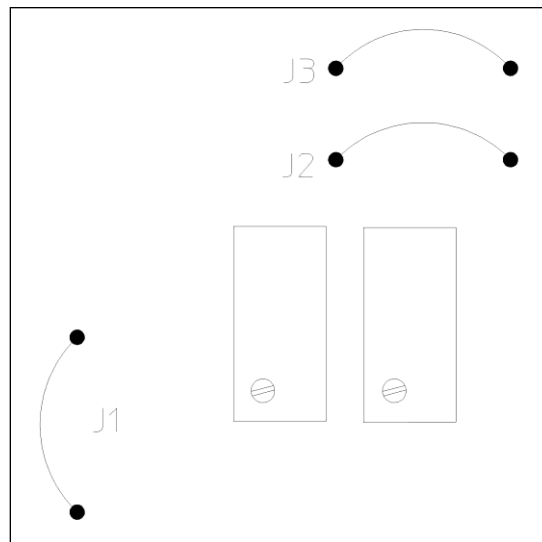

Figure 4. Jumpers 1, 2, and 3
1. Remove cover plate to expose jumpers. Refer to **Figure 4**.